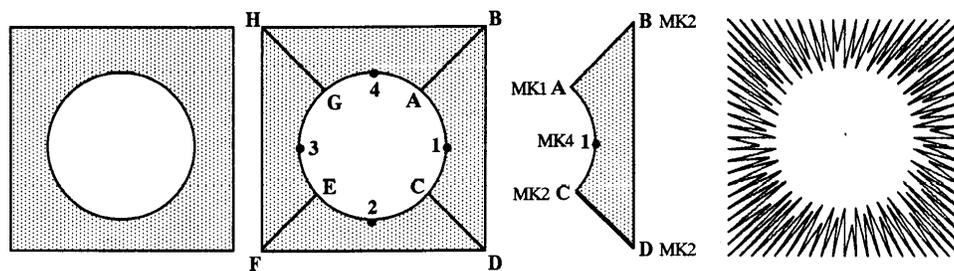

Figure 5-31
Another sample of curve smoothing is shown in Figure 5-31. Suppose you wanted to digitize column stitches in the shaded area of the shape shown at the left in Figure 5-31.
1. Plot the shape by dividing it into four similar sections as shown in the second from left illustration in Figure 5-31.
6. Continue this process until all four sections are digitized. You will get a result similar to the illustration at the right in Figure 5-31.